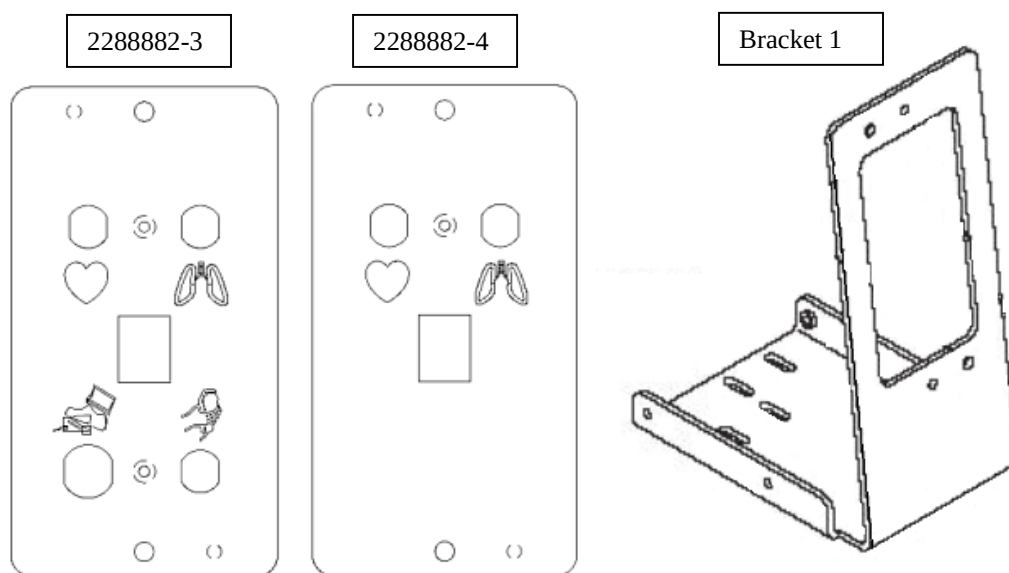
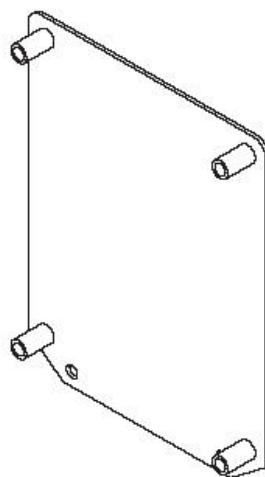

FIGURE 1-4 MOUNTING BRACKET 1 AND COVER PLATES
FIGURE 1-6 GANTRY OPTIONS BOARD MOUNTING BRACKET (BRACKET 2)
1. Attach the appropriate bulkhead cover to the base cover-mounting bracket (Bracket 1), using two (2) nuts (Figure 1-4).
5. Attach the Gantry Options Board mounting bracket (Bracket 2, shown in Figure 1-6) to the base cover mounting bracket 1. (See Figure 1-4).
6. Attach the Gantry Options (GO) Board to the mounting bracket (Bracket 2). Make sure that J2 is at the top of the board. (See Figure 1-4 for proper orientation.)